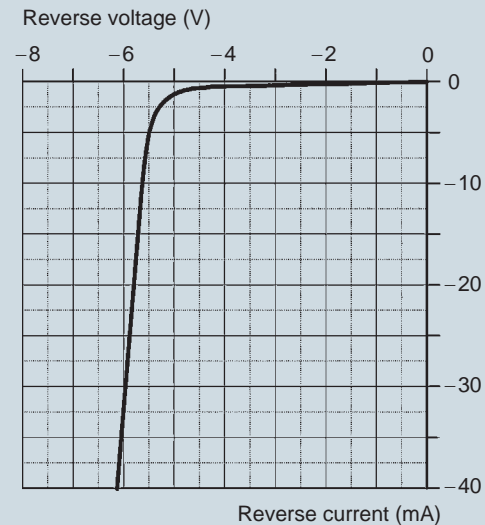

Figure 13.22
6. The graph shown in Fig. 13.22 was obtained during an experiment on a Zener diode.